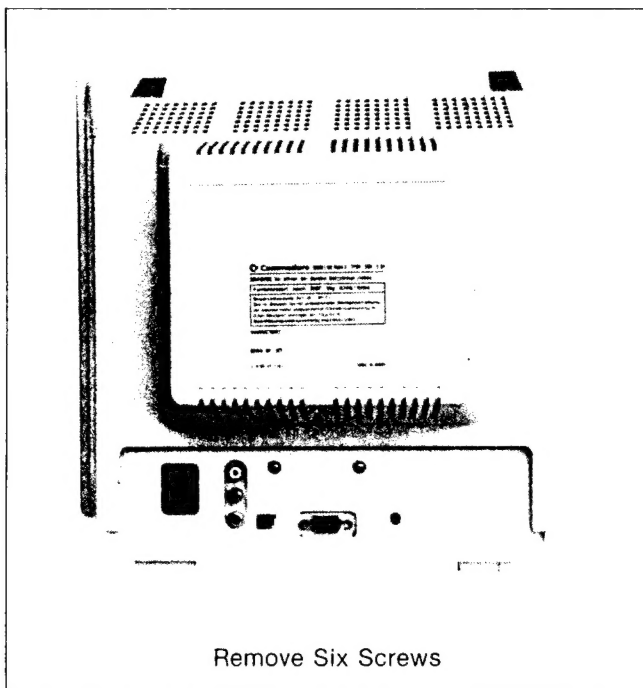

Fig. 3
CHASSIS REMOVAL (SEE FIGS. 3/4)
1. Remove the six screws securing the rear cover of the cabinet. (See Fig. 3)